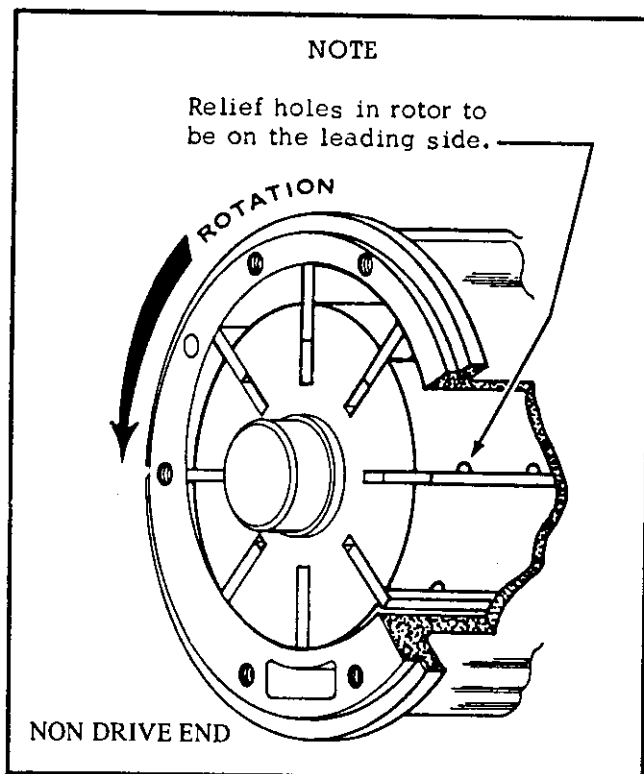

Figure 3-4. Compressor rotor installation
f. Replace blades (88, Fig. 5-18 and Fig. 3-6) when coating is worn off and bare metal is exposed on blade sides. If one side of blade is not worn, rotate blade 180 degrees and replace in slot. Blades should slide freely in slots. (Also, see Fig. 3-4.)
ing instructions. Heat bearing inner races (1 and 7) evenly in hot cooking oil to a maximum of 350°F. Install inner race (7) on shaft to shoulder. Assemble outer race (6) and spacer (5) on bearing inner race. Press bearing and shaft into cover (9). Place key (3) in shaft and slide rotor on shaft, making sure relief slots in rotor are leading in the direction of rotation (Fig. 3-4). Place heated bearing inner race (1) on shaft to shoulder. Complete assembly, referring to Figures 5-18 and 3-5.